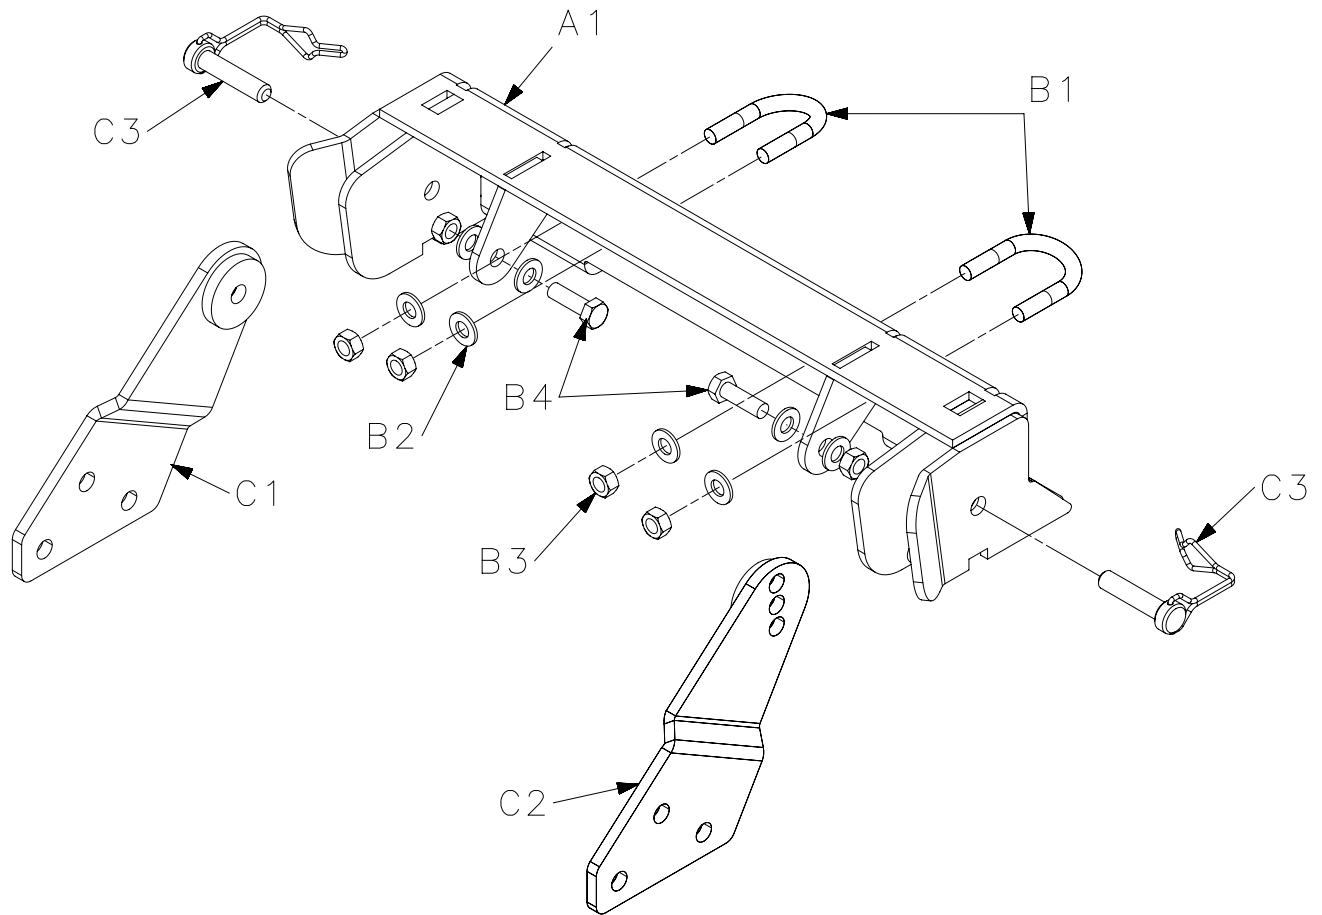

Figure 1
2. Use the 5/16 x 1" capscrews to secure the plow mount inner mounting tabs to the vehicle, as shown in Figure 3. Loosely secure the bolts using 5/16 flat washers and lock nuts. Refer to Figure 1.